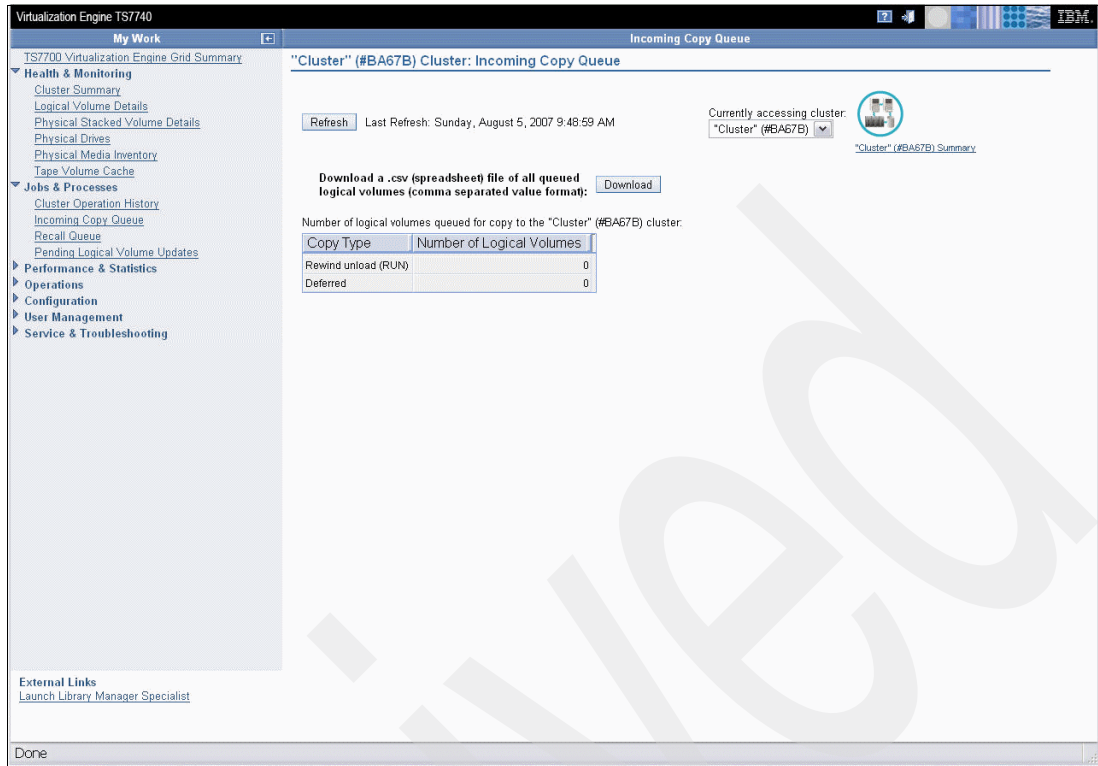

Figure 7-13 Incoming Copy Queue
- ▶ **RUN Queued Copy Operations** shows the number of rewind-unload copies queued. Clicking the available hyperlink will display the Logical Volume Incoming Copy Queue page. See Figure 7-13 on page 321.
- ▶ **Deferred Queued Copy** shows the number of deferred copies queued. Clicking the available hyperlink will display the Logical Volume Incoming Copy Queue page. See Figure 7-13.